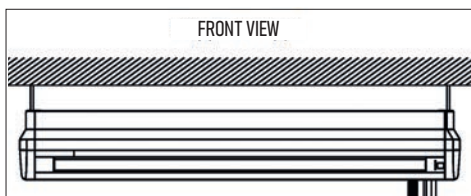

Fig. 3
- Suspend the indoor units. The indoor units should be suspended as shown in Figures 3 and 4 of the Appendix.